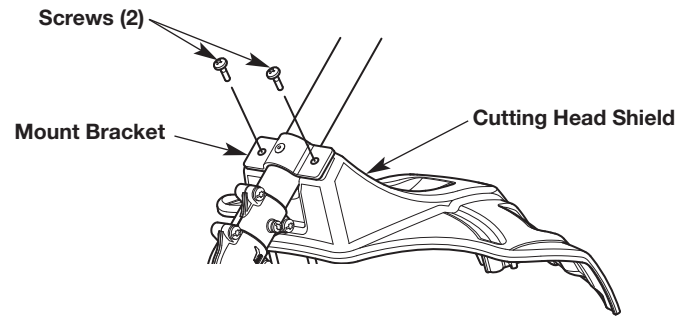

Fig. 1
1. Place the cutting head shield onto the mount bracket. Align the holes in the cutting head shield with the holes in the mount bracket. (Fig. 1)